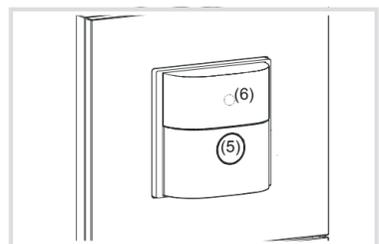

Figure 2: Operating and display elements
**Operating concept (Fig. 2)**
- (5) Button
- (6) Status LED (behind lens)
- Operation is executed by pushing the button (5) on the motion detector: